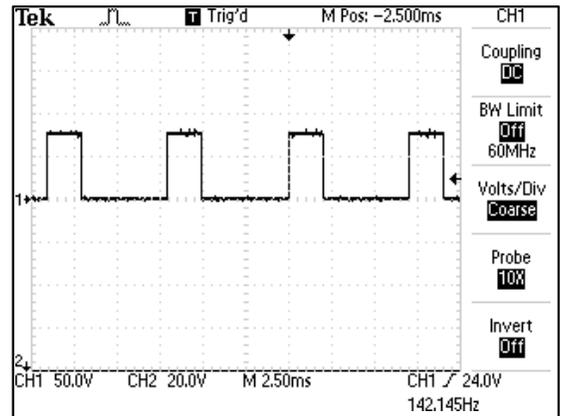

Figure 5.11
J. TRÄBERT (ULTRAREIZ) (Figure 5.11)